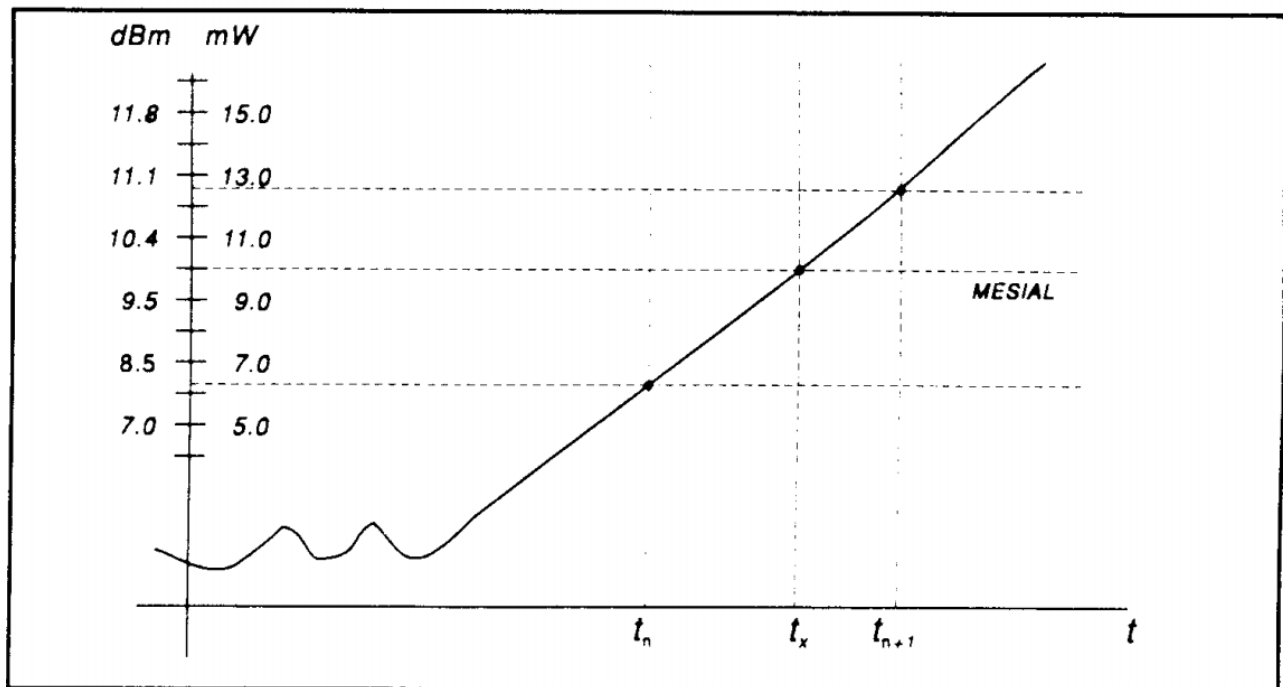

Figure 5.6 Time Interpolation
8. The process follows a similar procedure to locate the top amplitude (top line). The power range for the top histogram is 5 dB and the resolution is 0.02 dB, resulting in 250 levels. The level-crossing histogram is computed for a single pulse, using the samples which exceed the transition threshold. If only one transition exists in the buffer (Types 2 and 3), the process uses the samples that lie between the edge of the screen and the transition threshold (see figure 5.6). For a level to be designated the top amplitude, the number of crossings of that level must be at least 1/16 the number of pixels in the pulse width; otherwise, the peak value is designated the top amplitude.
10. The process determines horizontal position, in pixels, at which the signal crosses the mesial value. This is done to a resolution of 0.1 pixel, or 1/5000 of the screen width. Ordinarily, the sample values do not fall precisely on the mesial line, and it is necessary to interpolate between the two nearest samples to determine where the mesial crossing occurred. This process is demonstrated in the example above (figure 5.6):